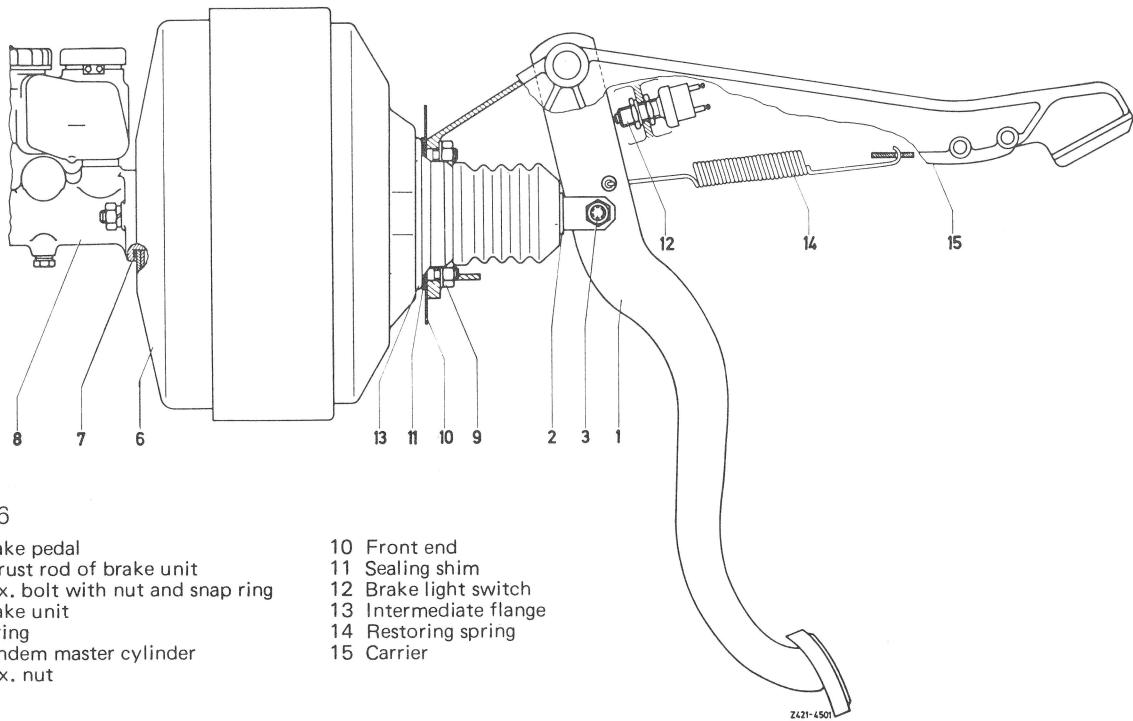

Fig. 6
**6** Unscrew hex. screw (3) and remove bushing (4) from brake pedal (1), so that the push rod of the brake unit on brake pedal is released (Fig. 6 and 7).